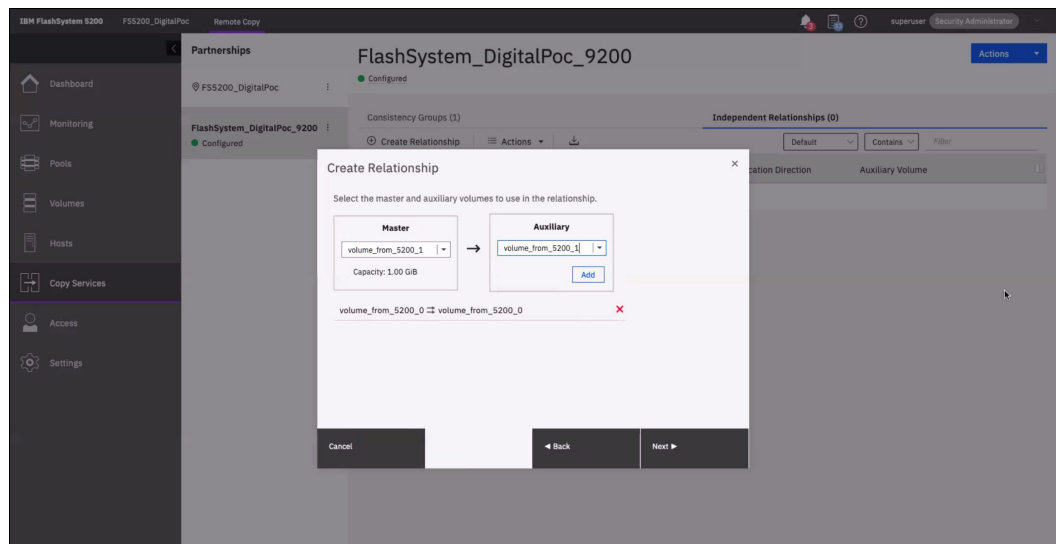
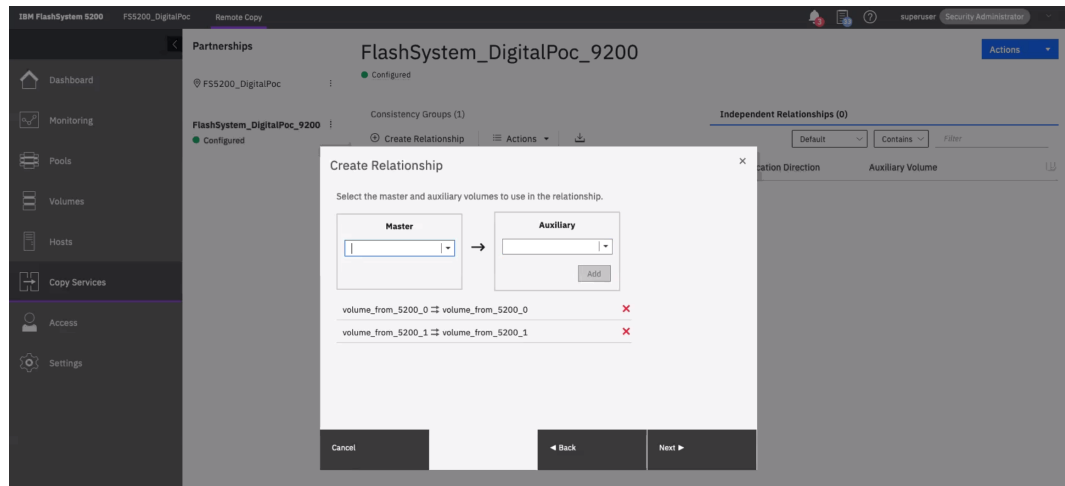

Figure 8-28 Adding master and auxiliary volumes
Figure 8-29 Final list of volumes to migrate
5. Follow the same process to add the remaining volumes by clicking **Add**, as shown in Figure 8-28 and Figure 8-29 on page 587.